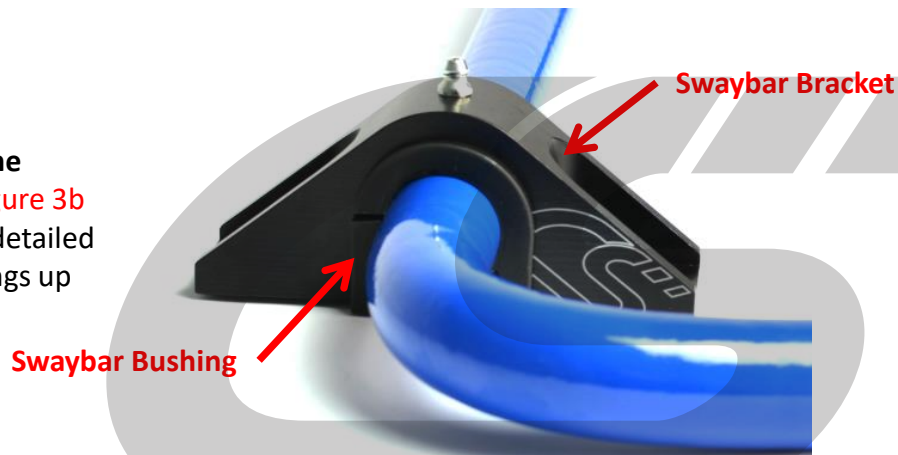

Figure 3c
- b) Assemble the sway bar brackets on the CorkSport Rear Sway bar. Refer to Figure 3b for final assembly and Figure 3c for a detailed picture. Make sure to press the Bushings up against the welded bushing stop.